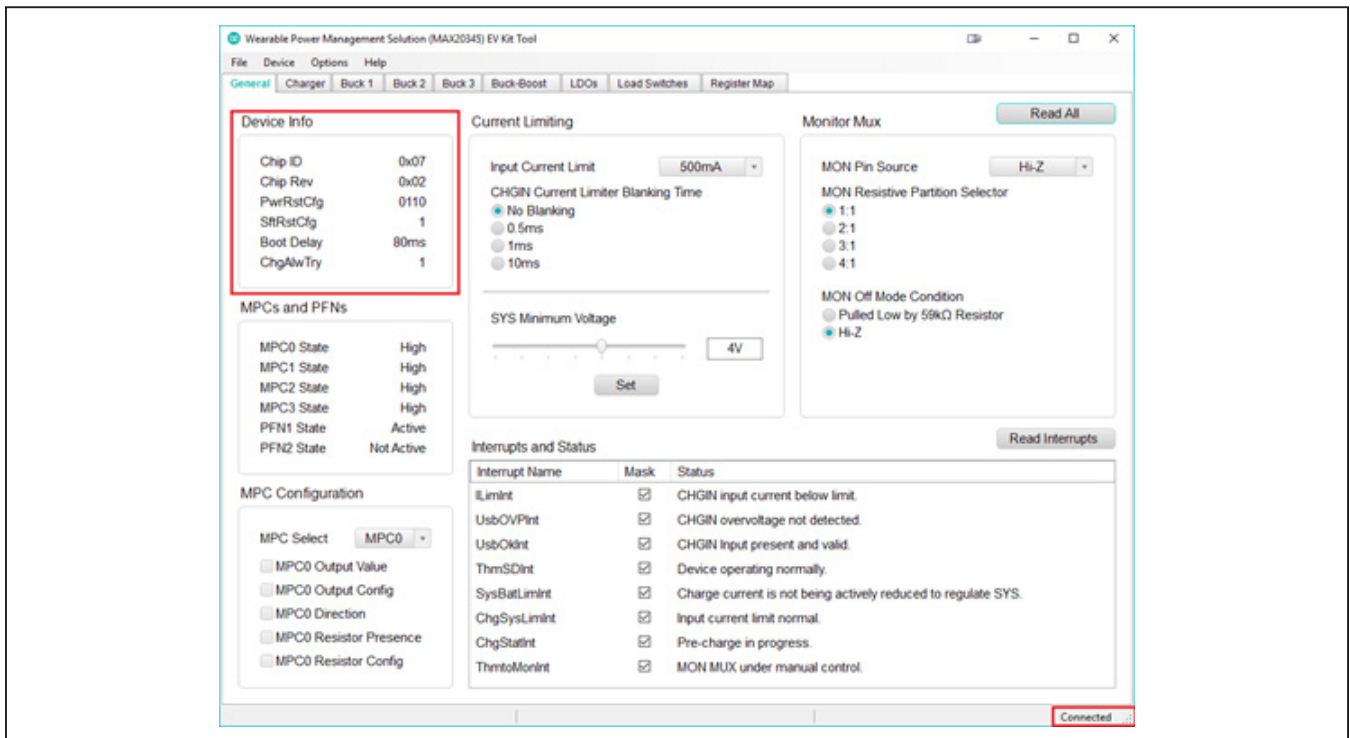

Figure 3. General Tab, MAX20345_SYS_EVKIT_B is Connected to EV Kit Tool
- 9) The status of the EV Kit Tool now shows “Connected”. Upon successful connection, the device info populates in the EV kit software (Figure 3).